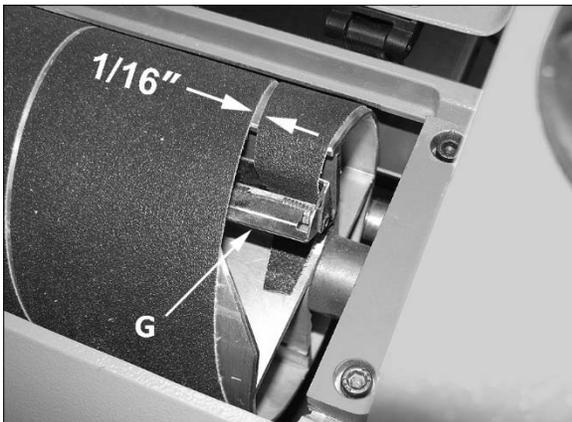

Figure 7
The last winding should have a 1/16 to 1/8 in. gap, before insertion into inboard fastener (see Figure 7).
- Press inboard take-up lever (G, Figure 7) and insert trailing end of strip as far as it will go. If necessary, trim tapered end of abrasive strip.